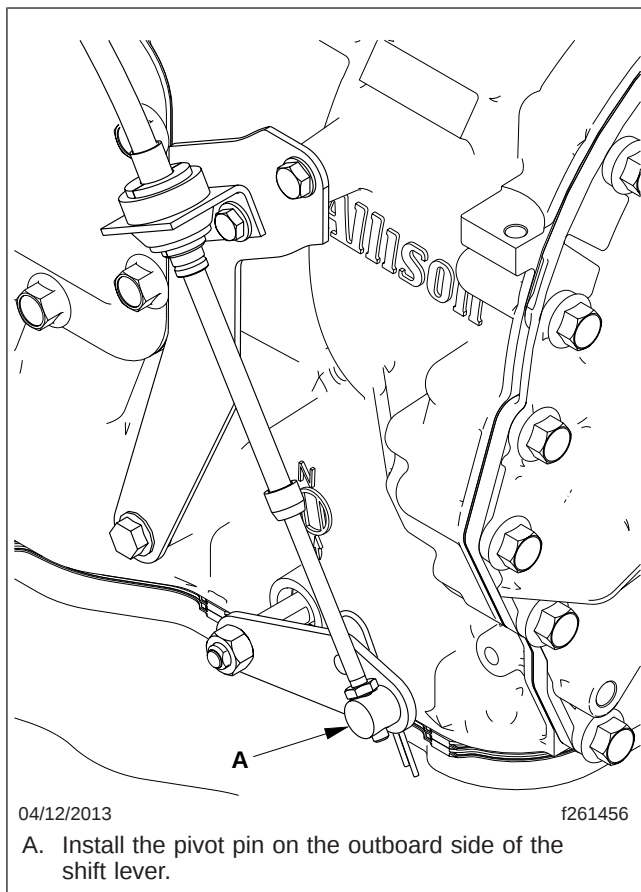

Fig. 6, Isolator Kit Installed
12. Install the pivot pin on the outboard side of the shift lever, as shown in Fig. 6.